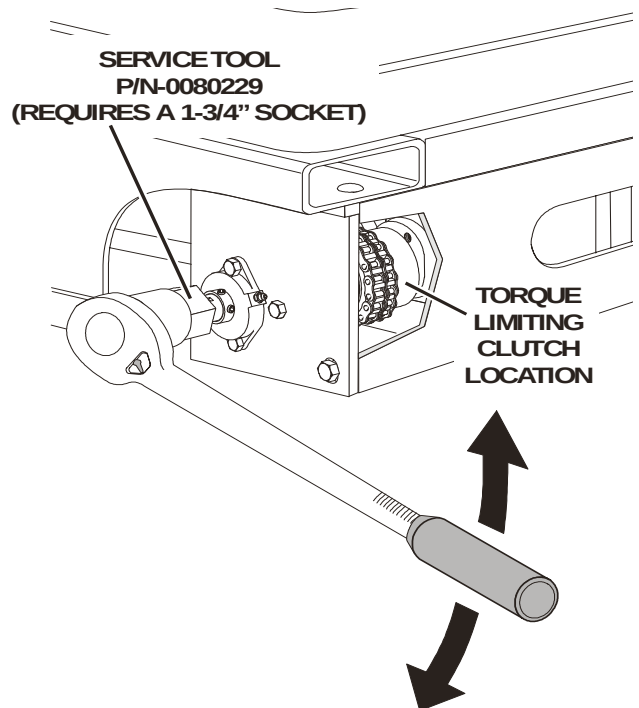

Figure 2-2. Check Torque Limit Clutch - Torque Setting.
3. Slide the tool onto the end of the drive axle aligning the key on the axle shaft (install key on axle, if necessary), with key slot in the tool. (See Figure 2-2.)